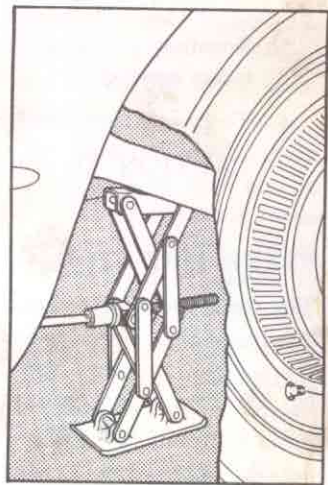

Fig. 31—Position of Jack for Rear Tire Change
- b. At rear wheel place jack under rear axle housing near rebound strap (fig. 31).